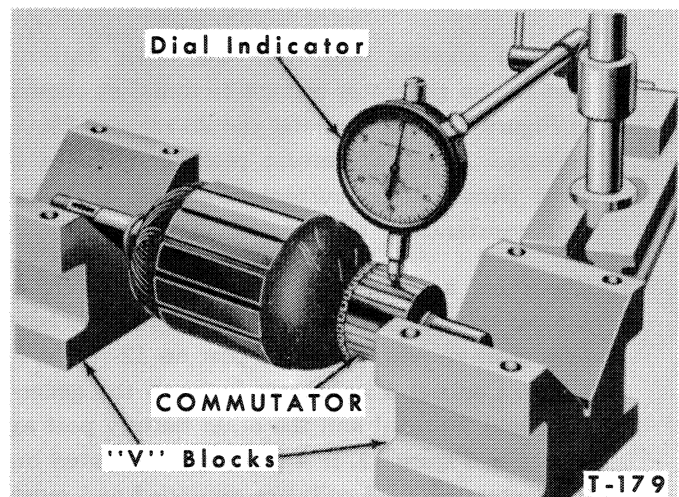
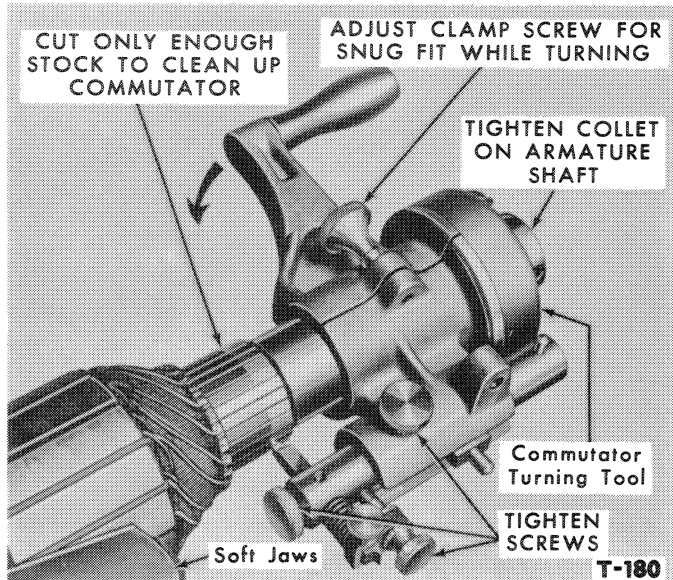

Figure 13—Checking Commutator Runout
Figure 14—Turning Armature Commutator
1. Check the commutator runout as shown in Figure 13. If the commutator surface is rough or more than 0.002 inch out of round, it should be turned in a lathe or with a turning tool as shown in Figure 14.
2. Inspect the armature for a bent shaft or a rough commutator. Replace the armature if the shaft is bent. A rough commutator can be turned in a lathe or with a turning tool as shown in Figure 14.